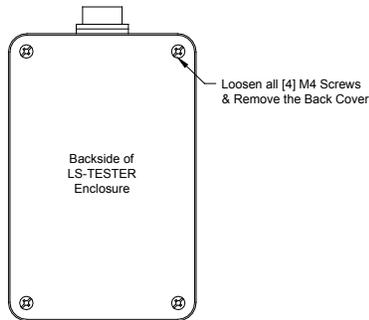

Figure 1: Back of Sensor Tester
- Removing the four M4 screws from the back of the LS-TESTER enclosure opens the enclosure. Reference Figure 1.